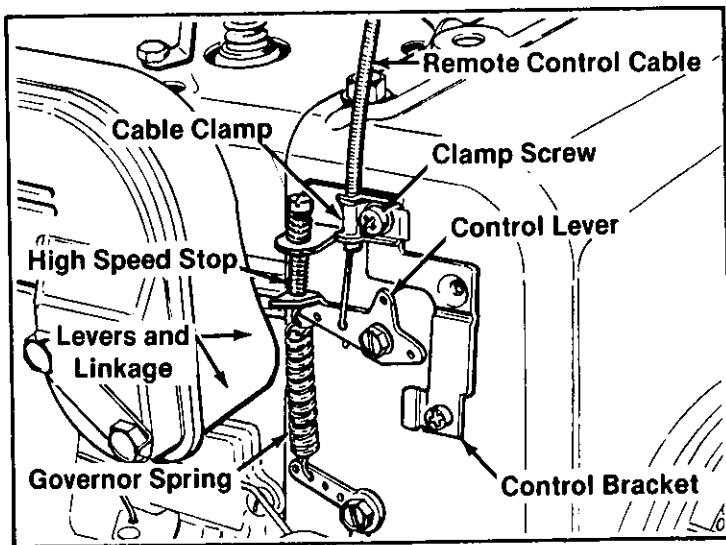

FIGURE 37.
2. Remote Control Adjustments (See figure 37.)